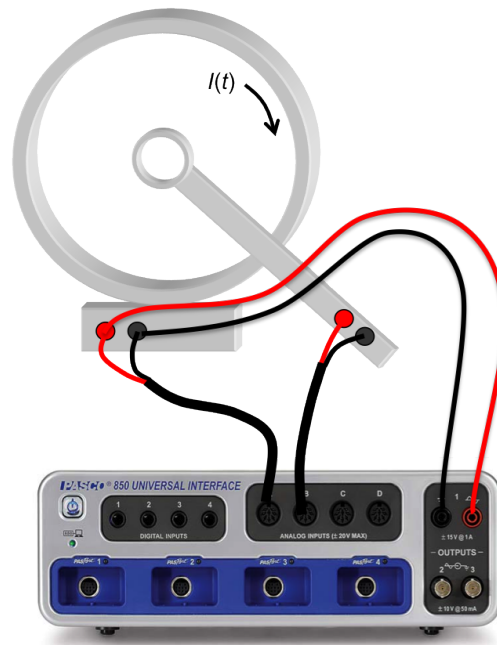

Figure 6: Connections between interface and coils.
3. Connect the signal generator to the large coil; then connect analog input A to the large coil and analog input B to the small coil, as in Fig. 6.